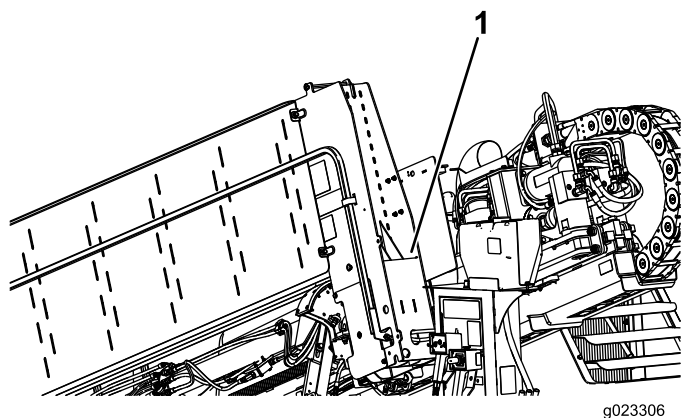

Figure 63
7. Store the cylinder lock next to the anti-freeze tank (Figure 63).